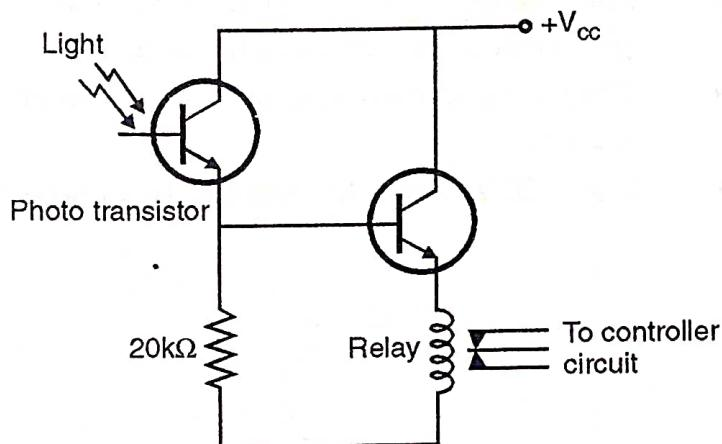

Fig. 1.20.8 : Relay control circuit using phototransistor
- Fig. 1.20.8 shows a relay control circuit using phototransistor. The light incident on the phototransistor causes the current to increase. The voltage drop across the $20\text{ k}\Omega$ resistance increases and the relay is energised. The current is raised to operational level.